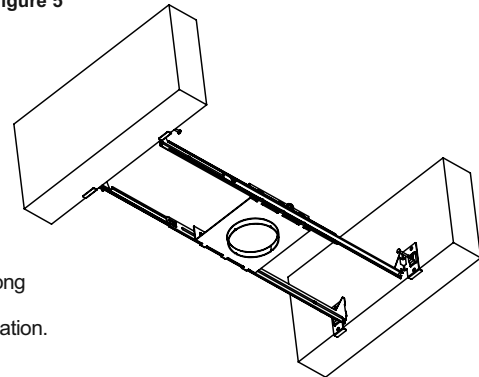
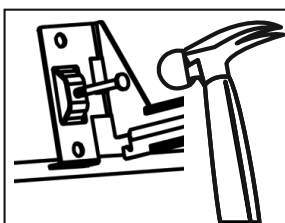

Figure 6
Figure 7
**Step 1.** Extend bar hangers to fit between joists. Each bar hanger foot is contoured to align with the bottom of ceiling joists (Fig. 6). Set frame into place by hammering in the nails at each foot (Fig. 7).